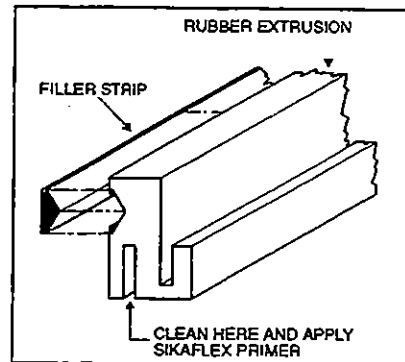

Figure 40
1. Clean the rubber extrusion with wiping towels soaked with isopropyl alcohol. Wipe with dry wiping towels and let dry 1 to 2 minutes. See figure 40.